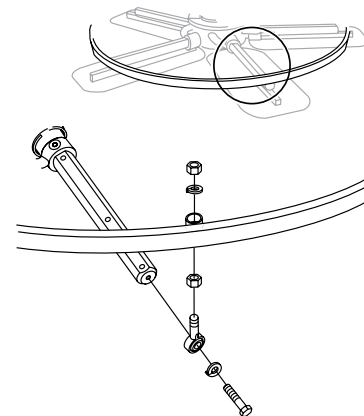

Figure 45. Stabilizer Ring
1. Remove the hardware securing the stabilizer ring to the trowel arm (Figure 45).